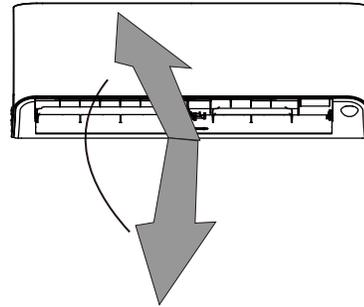

Fig. 14 Up-Down Louver Position
1. Press **SWING ↑** (up-down airflow) on the remote control once to activate the louver. Each time you press **SWING ↑**, the louver adjusts by 6 degrees. Press **SWING ↑** until the preferred direction is reached (see Fig. 14).